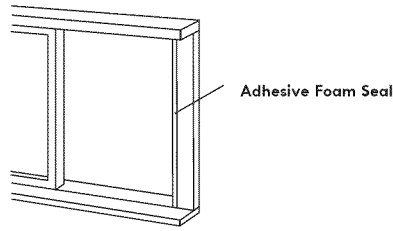

Fig.12
1. Cut a length of adhesive foam seal the height of the window and attach it to the window frame (see Fig. 12).